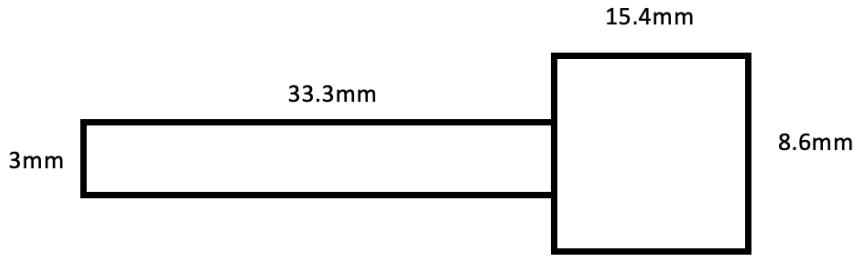

Figure 2 - Swab geometry simplification
b) Estimate the clamping force for a single part. Ignore the teeth and just consider the simplified geometry of the cap and the main swab as shown in Figure 2. The pressure drop in the part is 70 MPa. What is the maximum number of parts that you could produce in a single mold with the BOY XXS that has 80kN maximum clamping force? **3 pts**